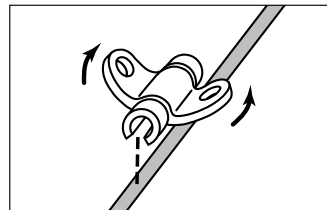

Fig. 10
- After spring-wire guide has been removed and the necessary lines have been connected or locked, spread wings of rubber clamp and position on catheter as required to ensure proper tip location (refer to Fig. 10).